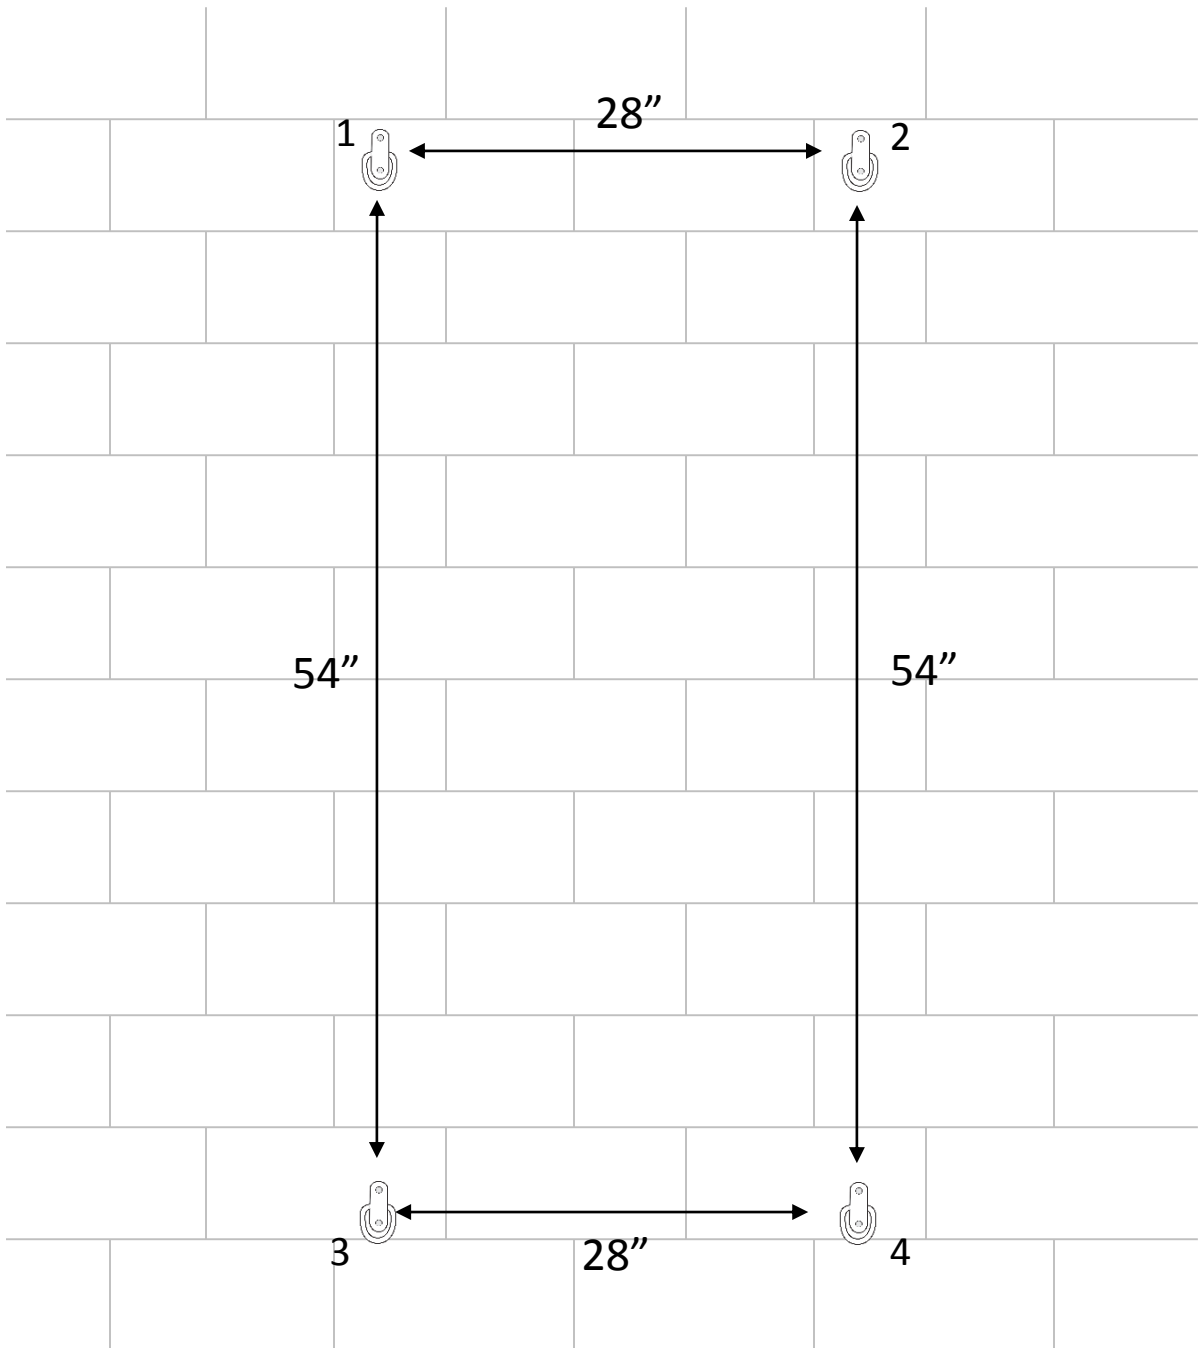

Figure 10
Step 6 – Use the proper mounting hardware to secure all four D-Ring assemblies to the cinder block wall. After installation the D-Rings should appear as shown in Figure 10.
Step 6 – Using the proper fasteners based on a solid drill through or hollow drill through into the cinder block wall, attach all four D-Rings to the cement wall. After attachment the D-rings should be positioned as shown in Figure 10.